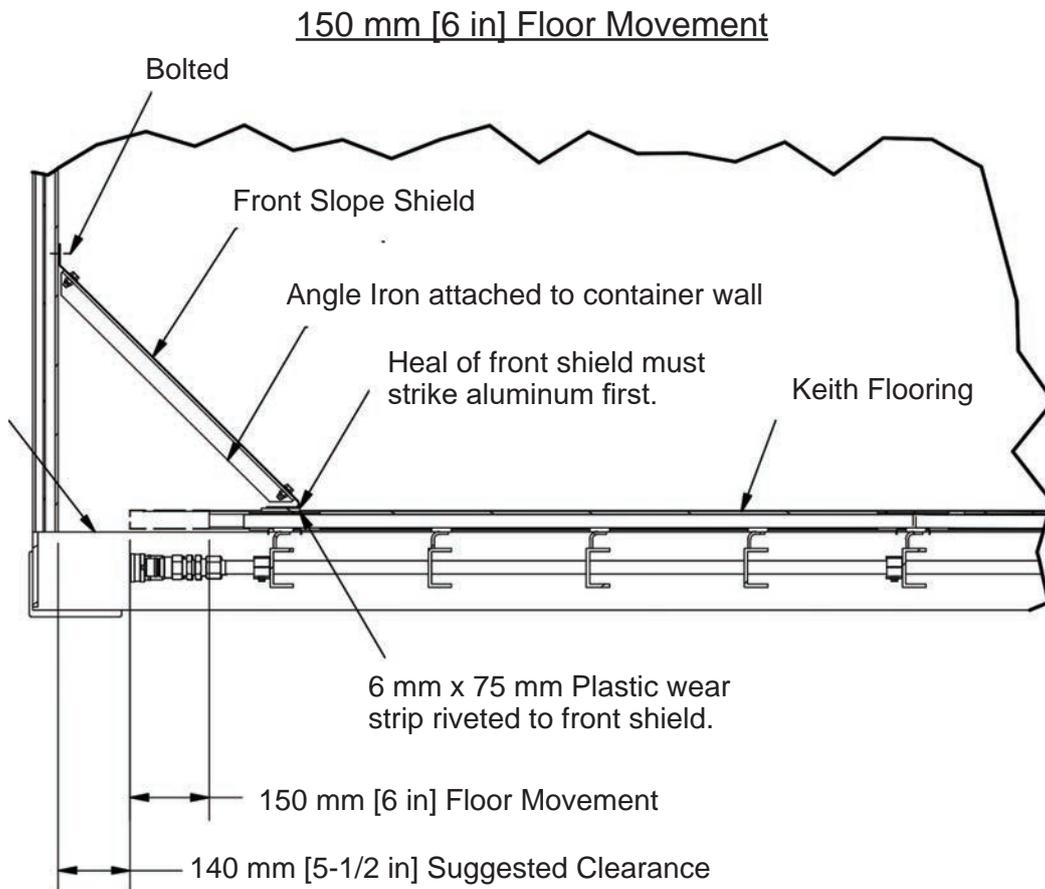

Figure 25
1. Determine dimensions (Figure 25).